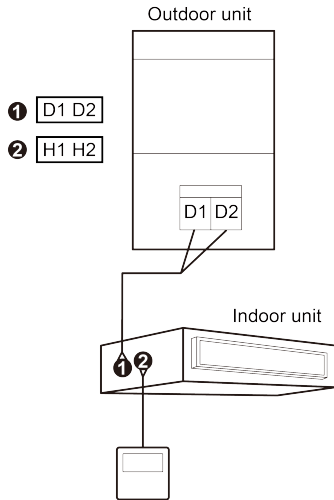
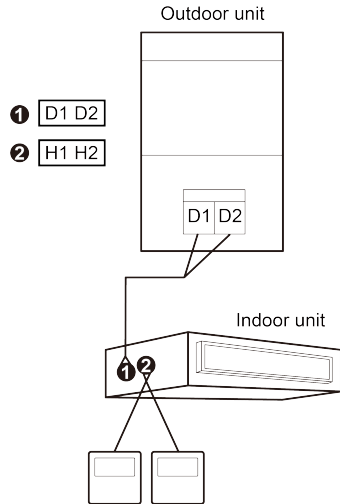
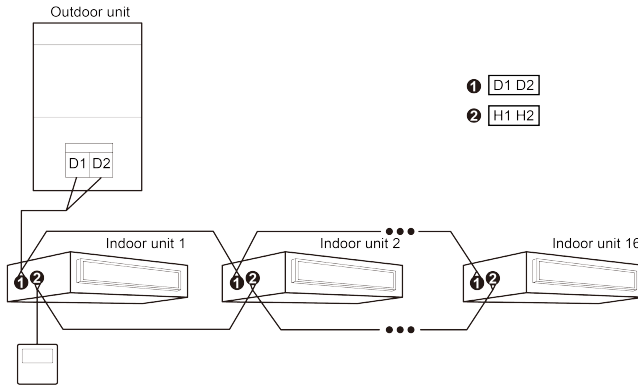
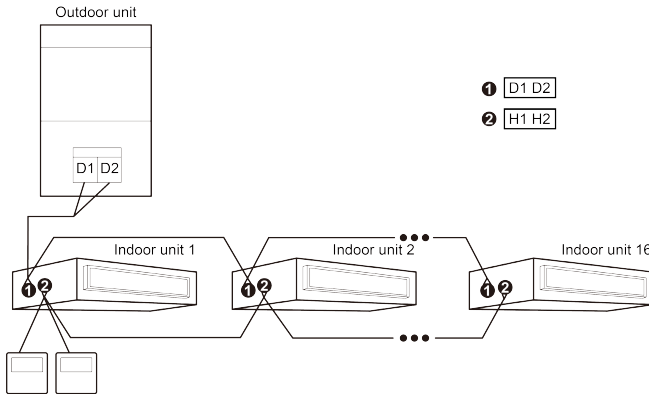

Figure 3-3 One Receiver Controls One Indoor unit
Figure 3-4 One Receiver and One Wired Controllers Control One Indoor unit
Figure 3-5 One Receiver Controls Several Multi VRF IDUs Simultaneously
Figure 3-6 One Receiver and One Wired Controller Control Several Multi VRF IDUs Simultaneously
- (1) When the receiver is connected with multi VRF unit, the wiring methods as shown in Figure 3-3, Figure 3-4, Figure 3-5 and Figure 3-6 can be adopted, but please pay attention to the follow:
- ① When one receiver or one receiver and one wired controller control several indoor units simultaneously, the receiver can connect any one indoor unit, but the connected indoor unit shall be of the same indoor unit series and the connected indoor unit shall be in the same multi VRF system. When it is applied together with the wired controller, please set the indoor unit quantity of group control in the wired controller.
- ② When the receiver controls several indoor units simultaneously, the settings of all indoor units controlled by it shall be identical.
- (2) In the wiring methods as shown in Figure 3-4, Figure 3-6, there can't be two receivers simultaneously and only one wired controller and one receiver are allowable. The wired controller can be set as master or slave wired controller and the receiver address will switch automatically (no need to set receiver address manually) according to the wired controller address (that is master/slave wired controller). The total quantity of receiver and wired controller can't exceed two.
- (3) The receiver interface is non-polar, but it can't be connected with heavy current.